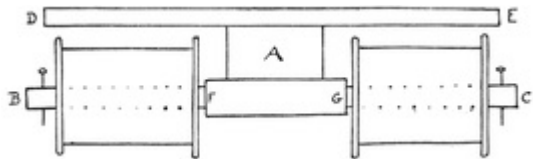

FIG. 197
(1) Small reels make good wheels for trams, motor-cars or trains. They require no sawing. Fig. 197 shows how they are fastened on. A is a block of wood glued and nailed on to the axle, B C, which is made of stripwood, $\frac{1}{4} \times \frac{1}{4}$ inch, or $\frac{1}{2} \times \frac{1}{4}$ inch; the ends, F B and G C, are rounded so that the reels can revolve easily on them. The bottom of the car is glued to the block. The reels can be placed quite under the bottom of the car, as in diagram, or they can project. For a train the wheels should be placed
to little ones are (1), (3), (6), (7), and (9). The axles should be narrow strips of wood, with the ends rounded. Round rods do not make good axles, because they cannot be fastened securely to the bottom of the vehicle, the nailing being a difficult matter for the children. In fastening the axles to vans, carts, etc., there is no need for block A (Fig. 197); the latter is only introduced when the wheels have to be under the vehicle; in other cases the axle can be glued and nailed directly to the bottom.